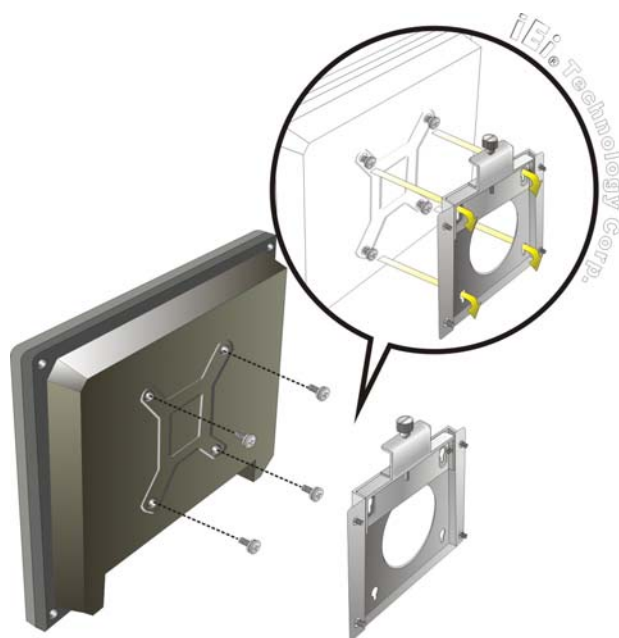

Figure 4-8: Chassis Support Screws
Step 6: Insert the four monitor mounting screws provided in the wall mount kit into the four screw holes on the rear panel of the flat bezel panel PC and tighten until the screw shank is secured against the rear panel (**Figure 4-8**).
Step 8: Carefully insert the screws through the holes and gently pull the monitor downwards until the monitor rests securely in the slotted holes (**Figure 4-8**). Ensure that all four of the mounting screws fit snugly into their respective slotted holes.